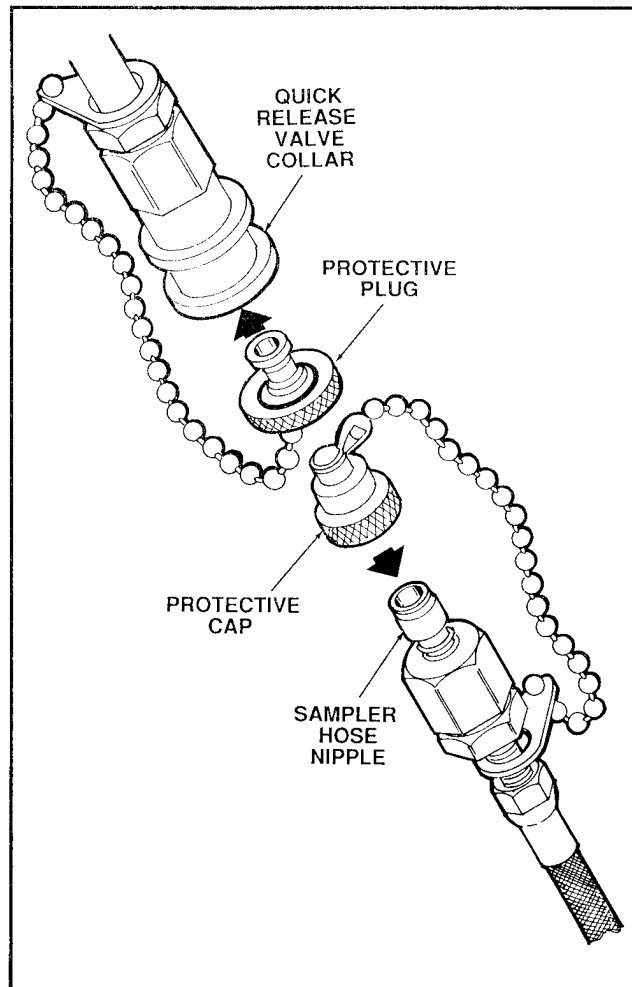

Figure 2.13 Replacing the Protective Cap and Plug
- d. Retract the quick-release valve collar and remove the sampler nipple from the valve. Replace the protective cap and plug (Figure 2.13).
- d.** Retract the quick-release valve collar; remove the sampler nipple from the valve and replace the protective cap and plug (Figure 2.13).